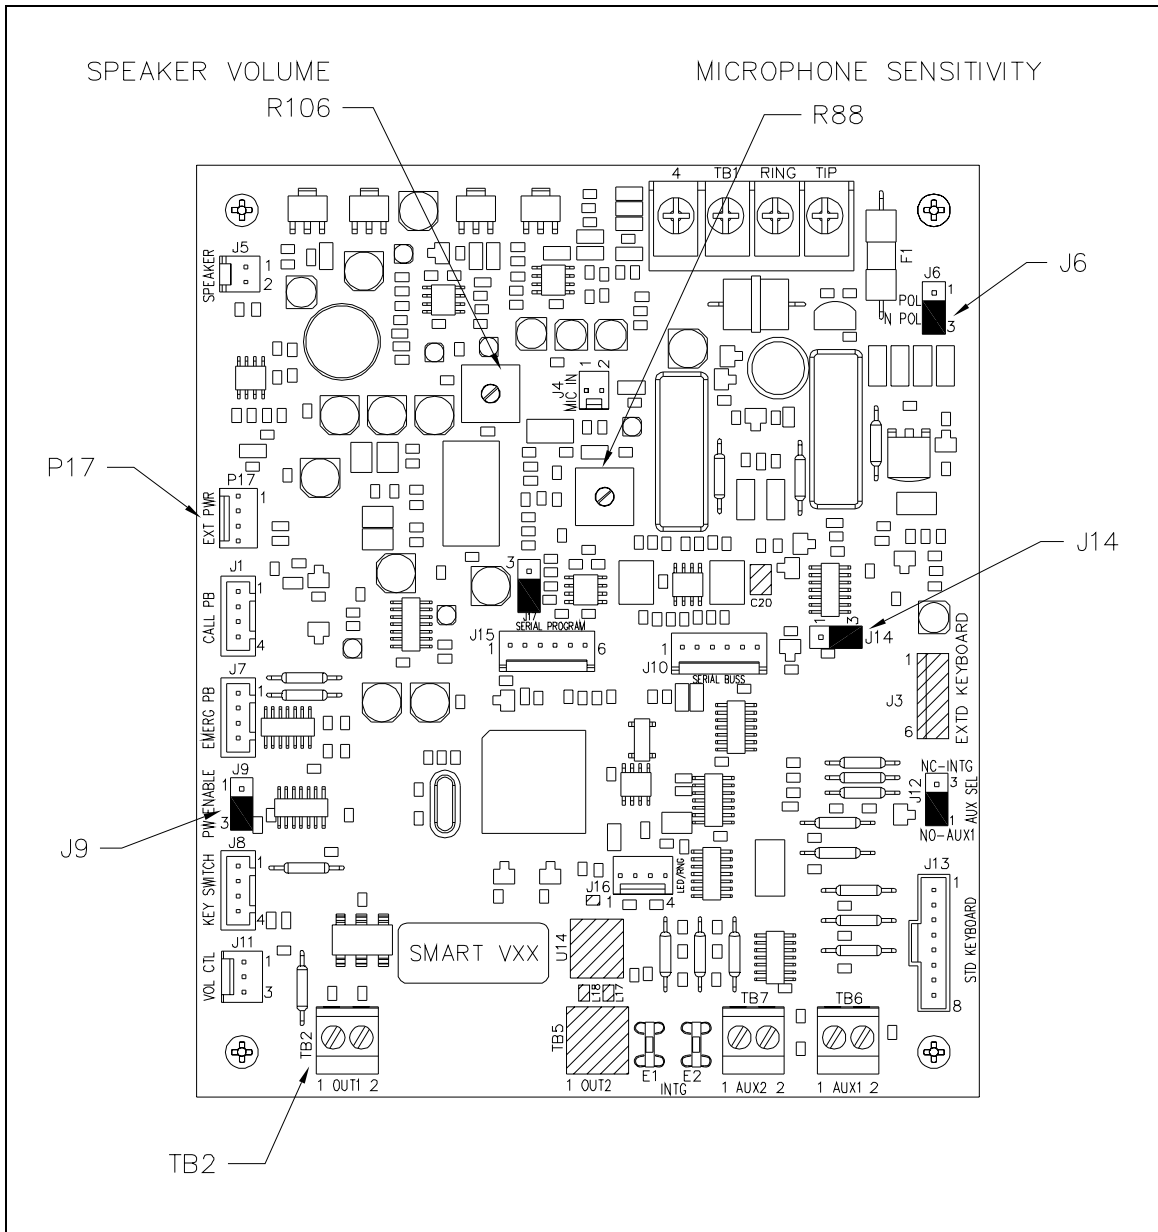

Figure 7. Emergency Phone PCBA
5. Connect the telephone's modular plug to a USOC RJ11 or CA11A (Canada) modular connector or (if applicable) the telephone line suppressor. Refer to Figure 7 for the Model 297-103 and 298-103 component locations. Telephone line connections directly to TB1 are acceptable.
The hardware configuration options are explained in detail in the following sections, and the necessary jumper settings are identified to enable or disable each option. We recommend reading each section, recording the selected options, making the necessary changes, and creating a record of your settings. See Figure 7 on page 10 for the jumper locations.
The speaker volume and microphone sensitivity are factory set to nominal levels that are acceptable for most installations. However, some installations may require adjustments for the speaker and microphone. Both the speaker and microphone adjustments are made using potentiometers on the emergency phone PCBA. R106 is the speaker volume adjustment, and R88 is the microphone sensitivity adjustment. Refer to Figure 7 for the potentiometer locations.
Each telephone includes one isolated solid state output capable of switching a maximum of 48 V dc, 125 mA or 28 V_{RMS} ac, 80_{RMS} mA. TB2 (OUT1) on the emergency phone PCBA provides the connections for the auxiliary output. Refer to Figure 7 for the location of TB2.